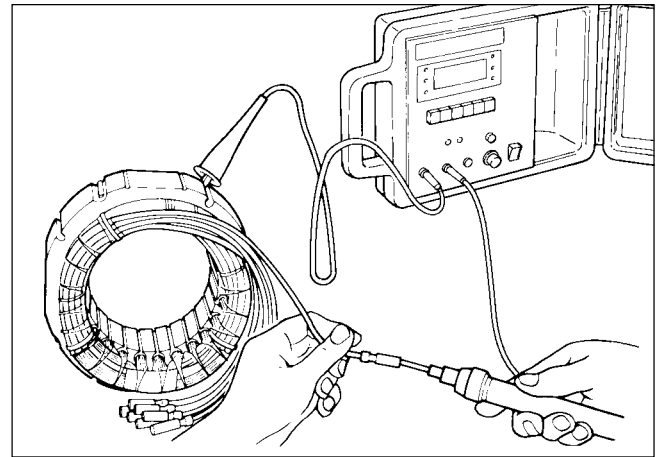

Fig. 2-3
- (3) Check the insulation resistance between stator core and each stator lead using a Cummins Onan generator tester in megger tester mode or a megger tester. (Fig. 2-3)